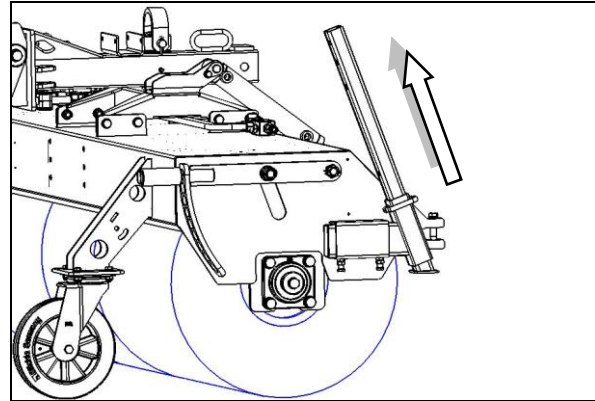

Fig. 4.12
- In case of sweeping without dirt hopper, move the two parking stand legs (Fig. 4.12) upwards and secure with the positioning bolt.